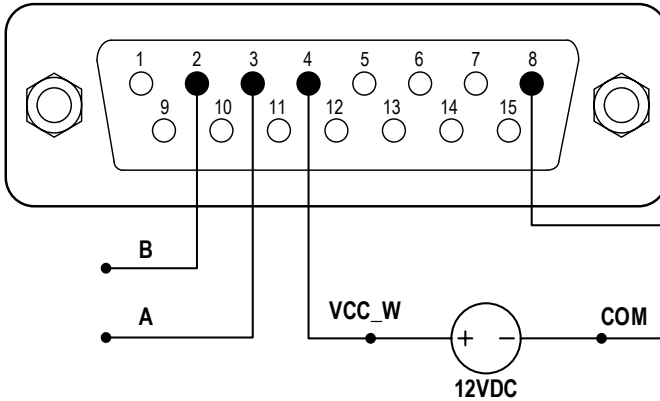

Figure 25. RS485 MODBUS Wiring
- 1) When the power is off, wire the DB15 connector as shown on Figure 25, and connect it to the DB15 port on the rear of the pump. External DC power source is recommend to avoid electrical interference.